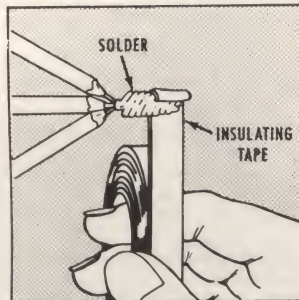

FIG. 12—TAPING A BUNCH SPlice
**COVER SPLICES WITH TAPE.** Soldered splices can be covered with one or two wrappings of plastic tape or wrapped with rubber and friction tape, as shown in Fig. 11. When joining two or more wires, a bunch splice (Fig. 12) is employed. At a ceiling outlet where a number of wires are spliced, wires should be twisted together, soldered and taped.